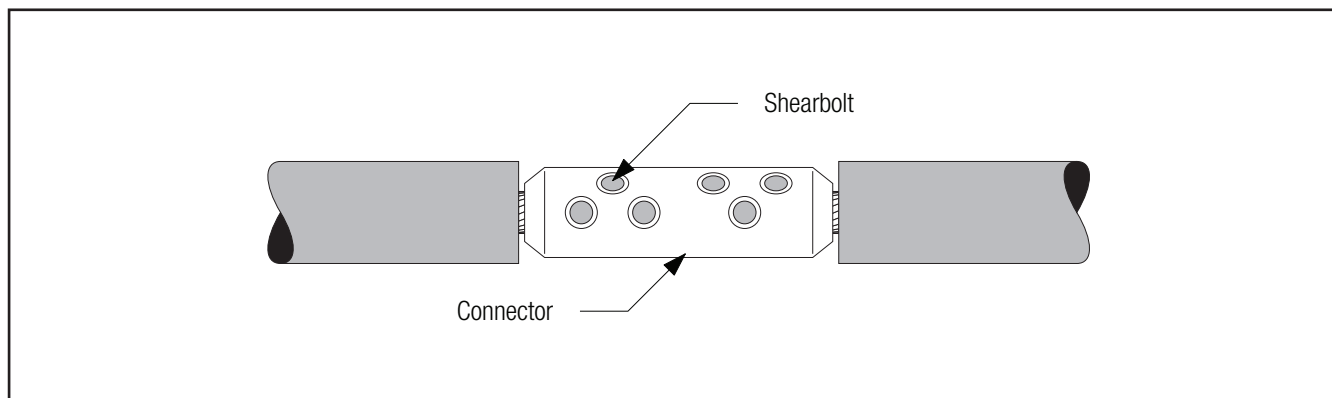

Figure 8
- 3.2 Install 3M Shearbolt Connector QCI 350-750 according to the instructions included with the connector (Figure 8).